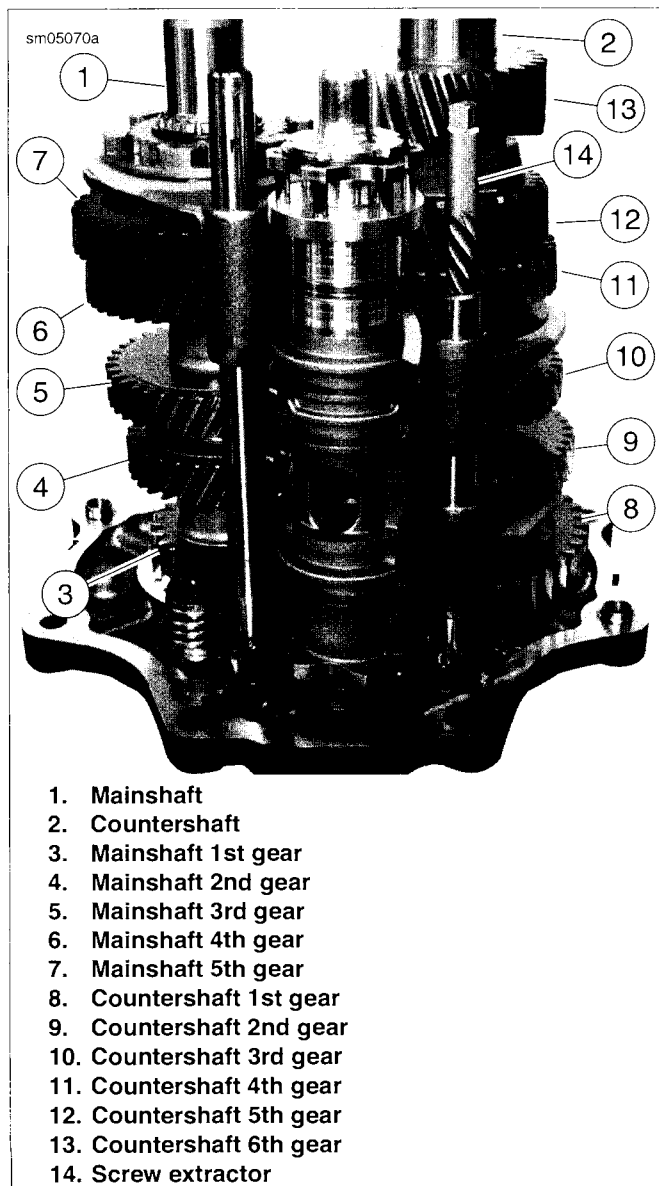

Figure 6-11. Gear Set
1. See Figure 6-11. With side door on end (shafts pointing upward), remove shift fork shafts using easy-out screw extractor (14) (non-flute design). Shafts have slight interference fit. Shafts can be reused, do not damage end of shaft. Mark end of shaft so same end can be reinserted during reassembly.